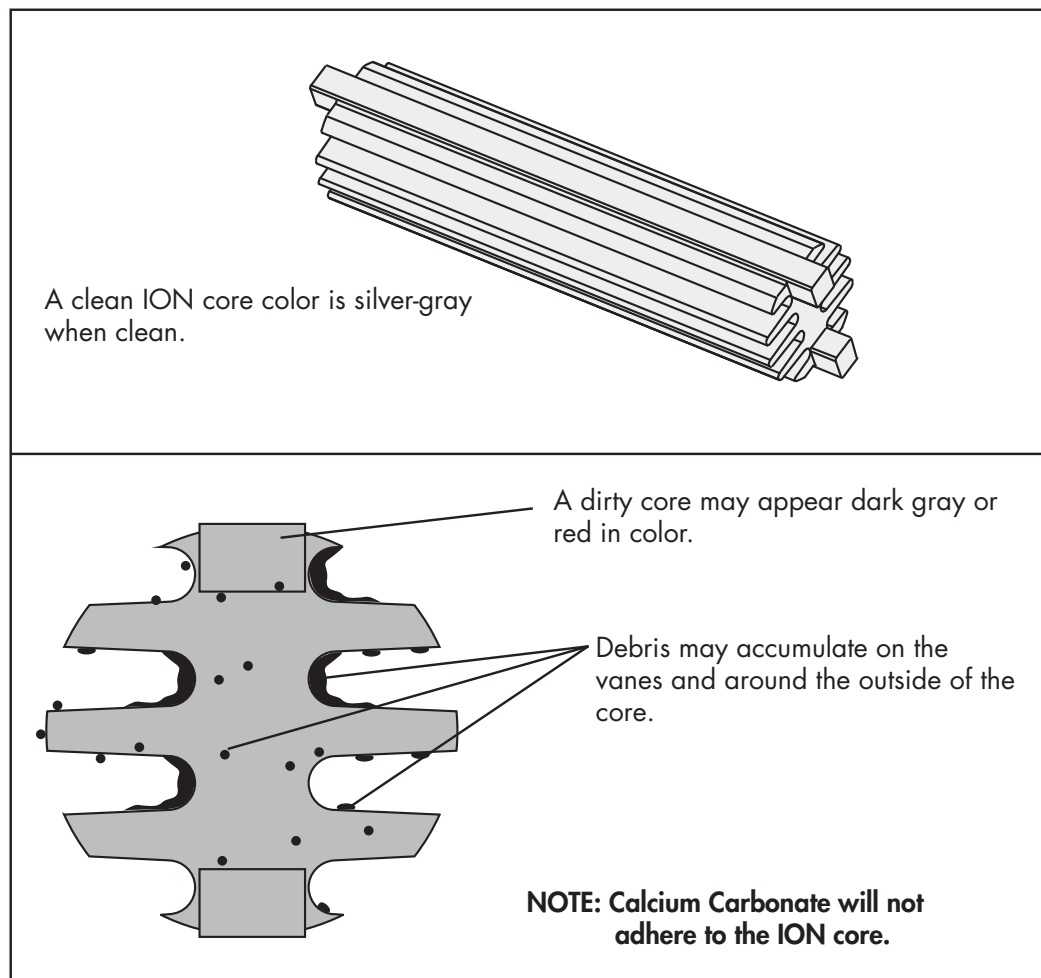

Fig. 5
2. If your region has unusually hard water, then check the core for deposits that may interfere with its operation. Iron deposits appear red in color, in which case, add an iron filter BEFORE the ION on the incoming water supply line. Figure 5 below illustrates how deposits may appear on the ION core.